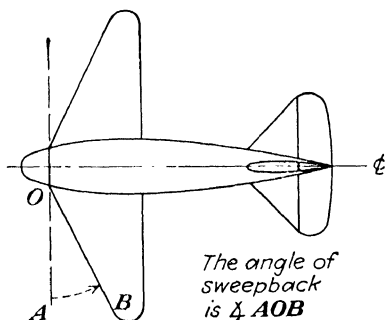

Fig. 113.
B. Angle of Sweepback. Figure 113 shows clearly that the angle of sweepback is the angle between the leading edge and a line drawn perpendicular to the center line of the airplane. In the figure, $\angle AOB$ is the angle of sweepback.